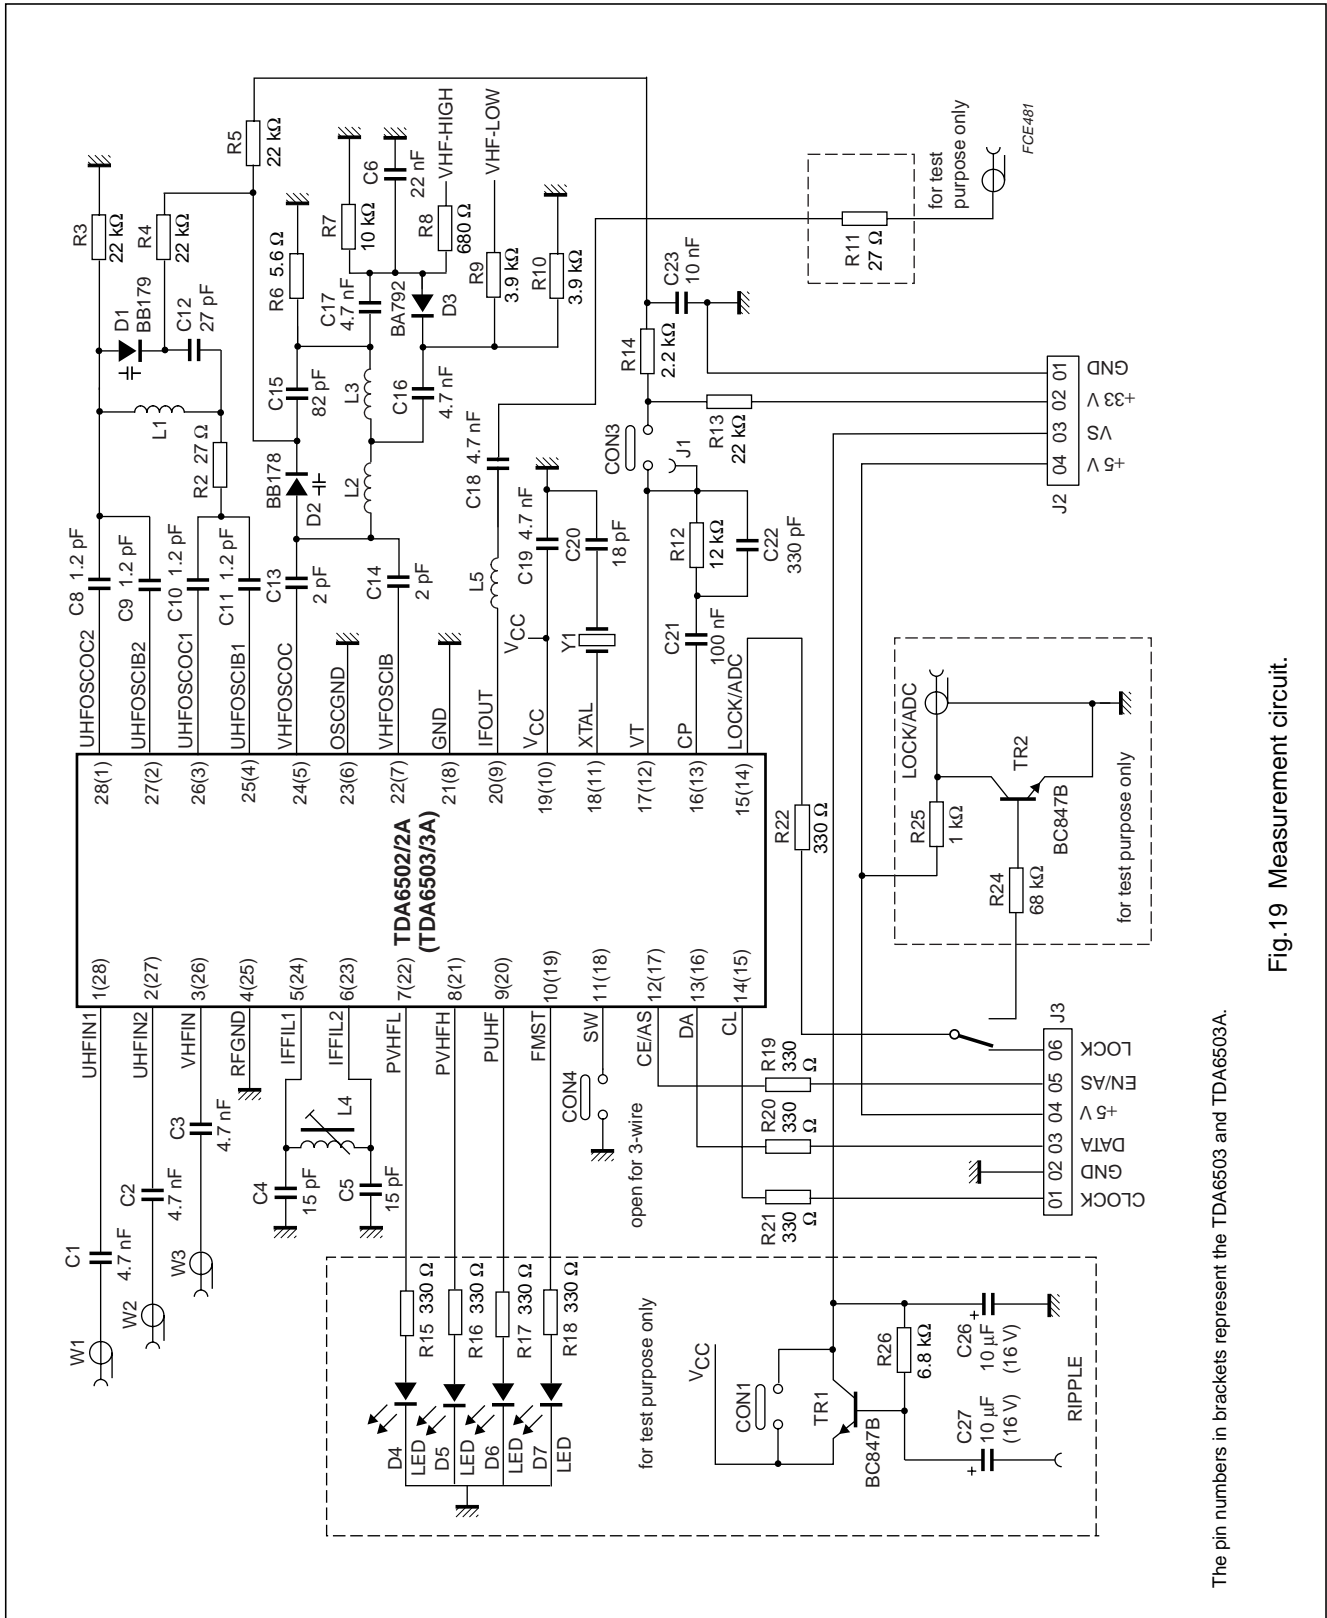

Fig.19 Measurement circuit.
3. Limits are related to the tank circuits used in Fig.19; frequency bands may be adjusted by the choice of external components.
7. The ripple susceptibility is measured for a 500 kHz ripple at the IF output using the measurement circuit of Fig.19; the level of the ripple signal is increased until a difference of 53.5 dB occurs between the IF carrier fixed at 100 dB μ V and the sideband components.